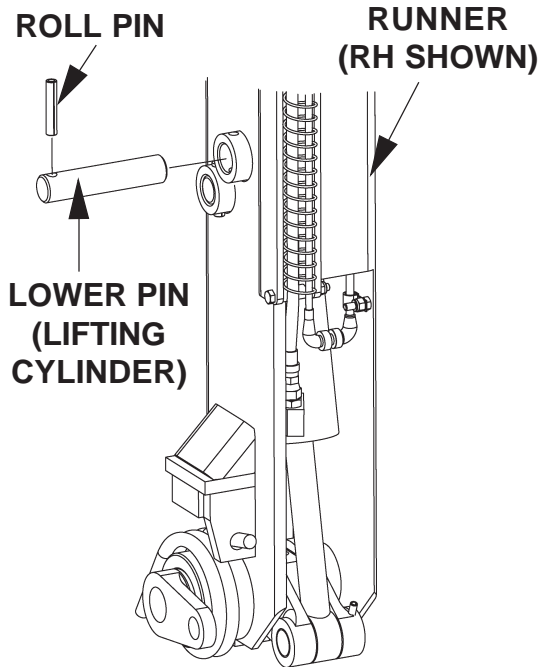

FIG. 9A
6. Remove Lifting Cylinder Lower Roll Pin and Lower Pin (**FIG. 9A**). Use **UP/DOWN** Runner Switch to raise Lift Cylinder to fully retracted position.